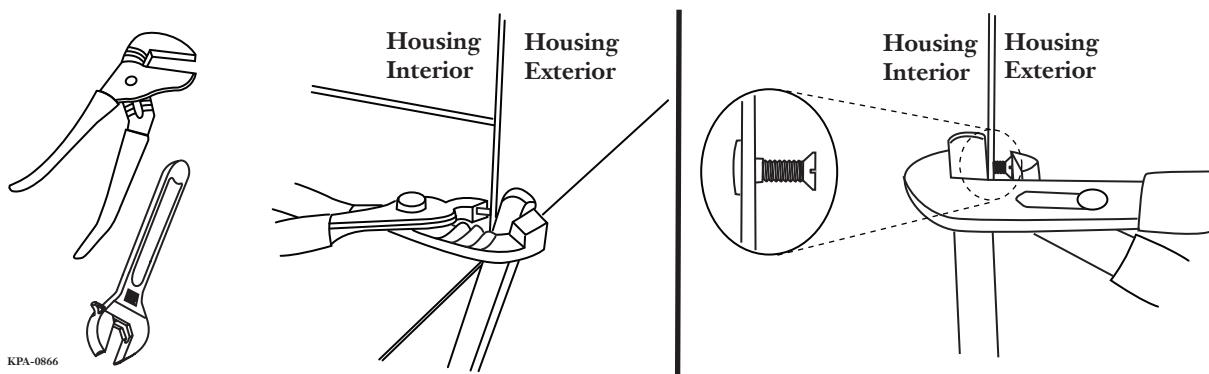

Figure 3
- Step 3:** Remove both threaded studs from each side of the housing by positioning the closed end of a wrench around the threaded stud on the outside of the housing to create a gap for the threaded stud to be pushed into. Use channel-lock pliers to press the threaded stud through the gap and remove from the housing. Repeat this step until all four threaded studs are removed (Figure 3).